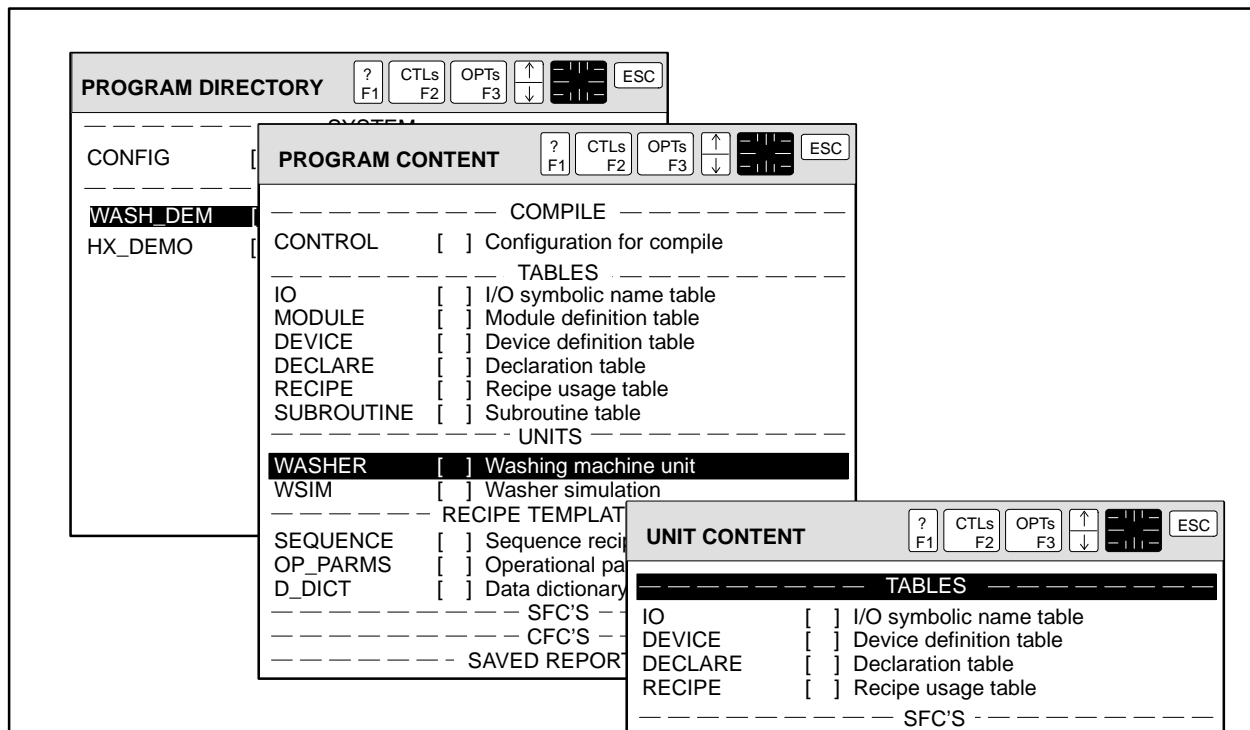

Figure 2-7 Moving Down the APT Hierarchy
1. Place the text cursor on the name of a program in the Program Directory as shown in Figure 2-7.